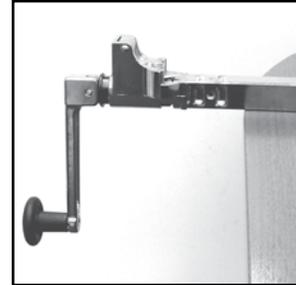

Figure 13
1. Place can opener on a sturdy surface with the blade side facing up and the handle down. (Figure 13)
4. Place new knife blade on the holder and align the holes. Bring the handle down again as shown in Figure 13 to lock the holder before refastening the two screws.